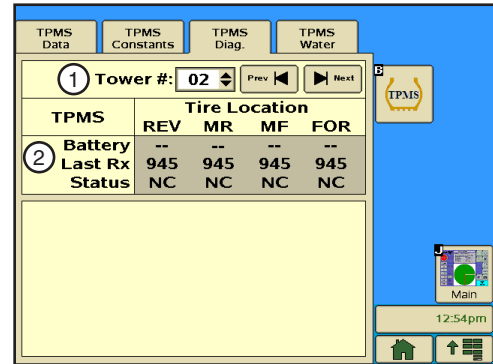

Figure 64-1 1. Tower # Menu
1. Push **Options**, **TPMS**, **TPMS Diagnostics** for the Tire Pressure Diagnostics screen. Refer to Figure 64-1.